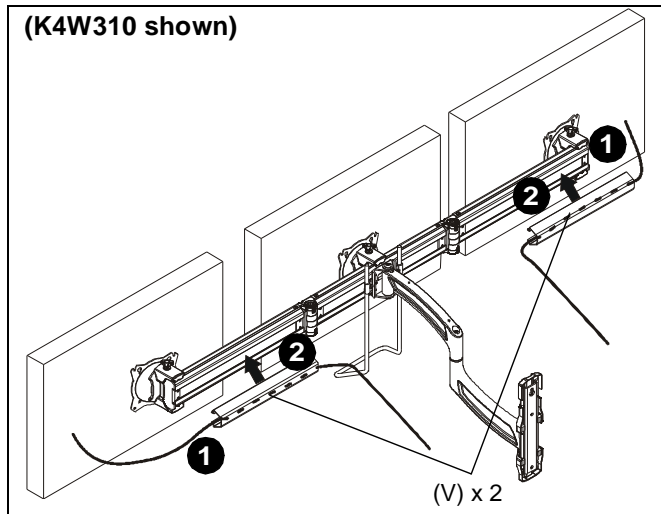

Figure 28
1. Route cables from display through cable management covers (V) as desired. (See Figure 28)
2. Install cable management covers (V) onto array arms (X and Y). (See Figure 28)